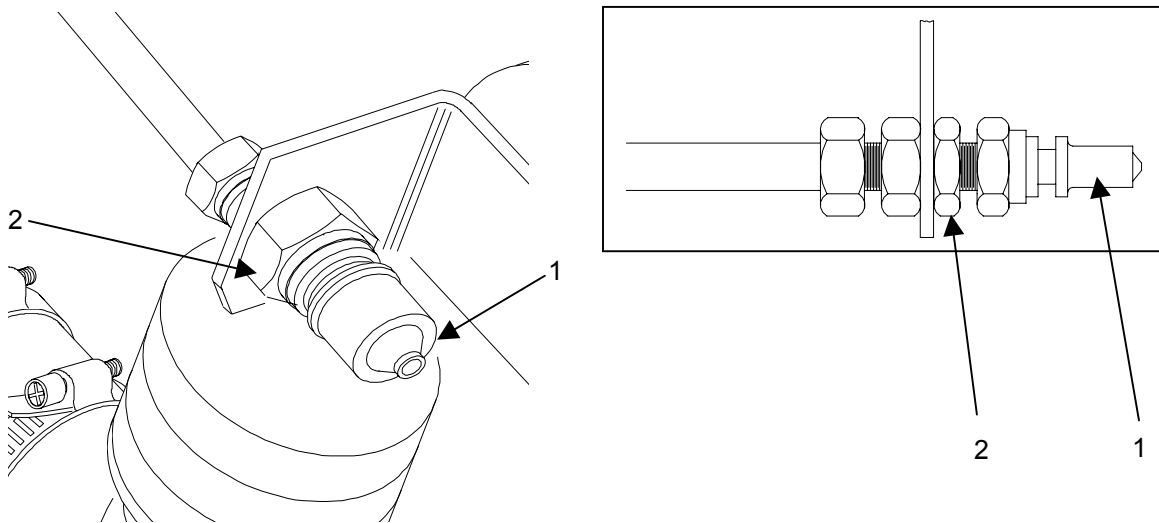

Figure 2. Replace the Fuel Interface Fitting
1. To replace the fuel interface fitting (**figure 2, item 1**) loosen and remove the fitting from the union (**figure 2, item 2**) using a wrench, while holding the union in place with a second wrench.
2. Remove joint sealer compound residue from union (**figure 2, item 2**).
3. Apply new joint sealer compound to union (**figure 2, item 2**) and thread new fuel interface fitting (**figure 2, item 1**) onto union, while holding the union in place with a wrench.